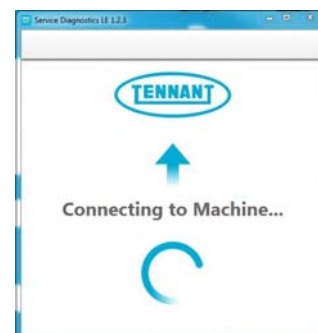

Fig. 17
4. The application software will then connect to the machine (Figure 17). If the application remains on the “Connecting to Machine...” screen for an extended period, cycle key or close and restart the application software. If it still fails to connect, restart the computer.